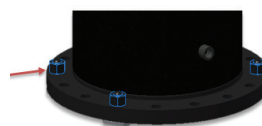

Figure 65
5.0.25) Before lifting insertion housing onto the 16" Temporary gate valve, FIRMLY tighten packing nut thumb screw and unscrew the four 1"-8 nuts holding the alignment plate gauge (see Figure 65).